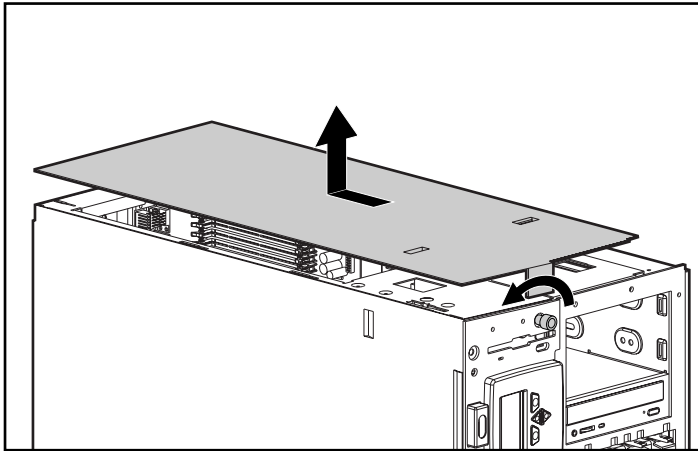

Figure 4-19. Removing the side panel
9. Reconnect the SCSI cables on the back of the drive cage. Refer to Figure 4-19 connector identification. Refer to *Cabling Guidelines for Compaq ProLiant 3000 Servers* for information on SCSI cabling.